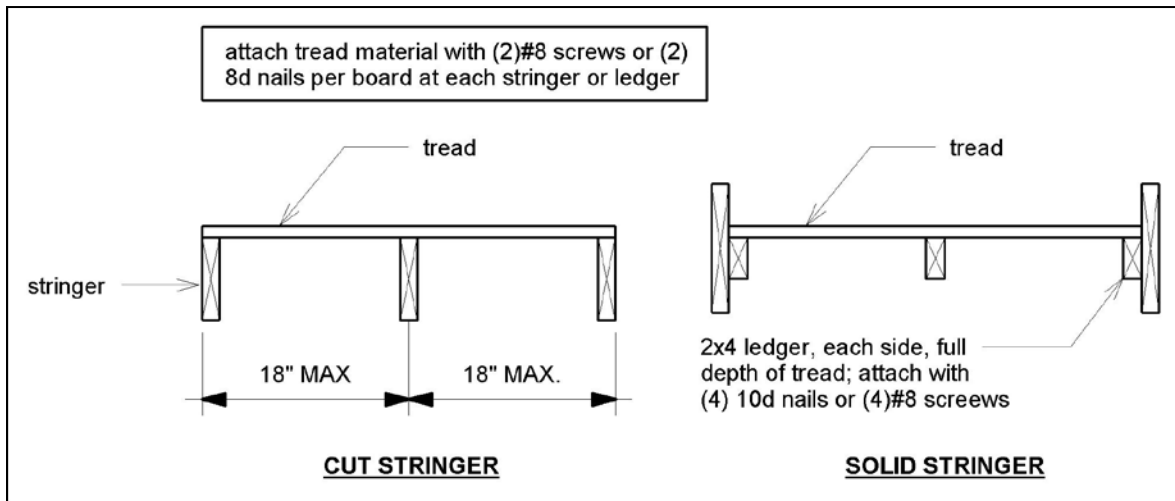

FIGURE 35: TREAD CONNECTION REQUIREMENTS
- Tread material shall be attached per FIGURE 35.